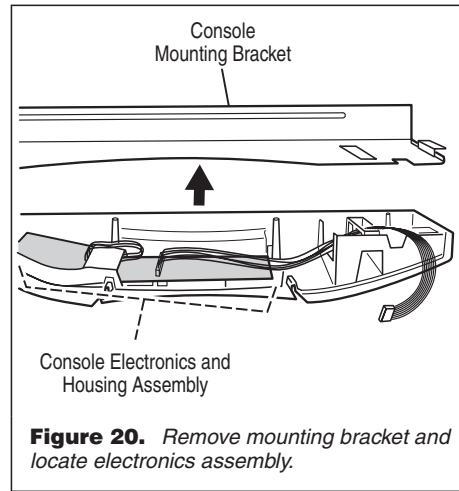

Figure 20. Remove mounting bracket and locate electronics assembly.
2. Remove the screws that fasten the console mounting bracket onto the assembly. Lift up and remove the bracket to locate the electronics assembly. See figure 20.